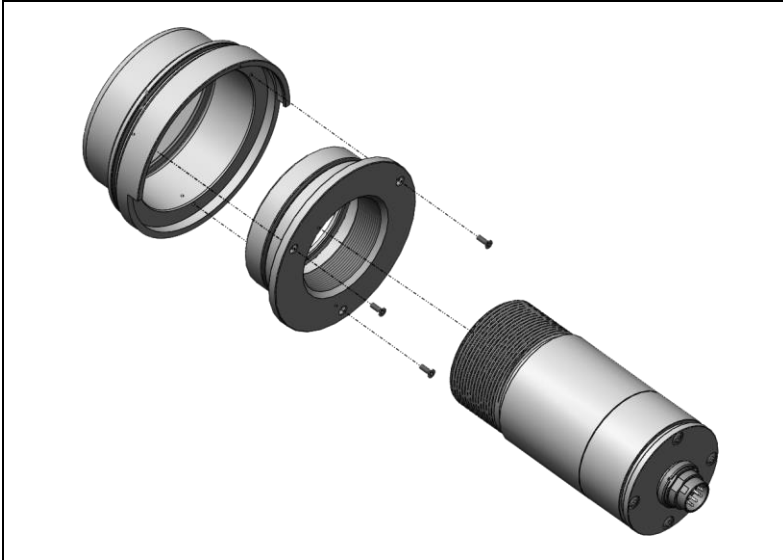
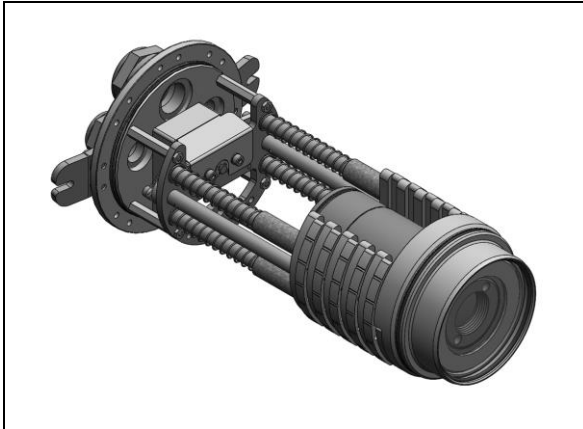

Figure 14: Assembling of the CTLaser, CSLaser, CTVideo, CSVideo
Figure 22: Front part with infrared thermometer
1. Screw the infrared thermometer in the thread (M48x1.5) of the front part (see **Figure 14**) and seat the front part in the chassis (**Figure 22**).